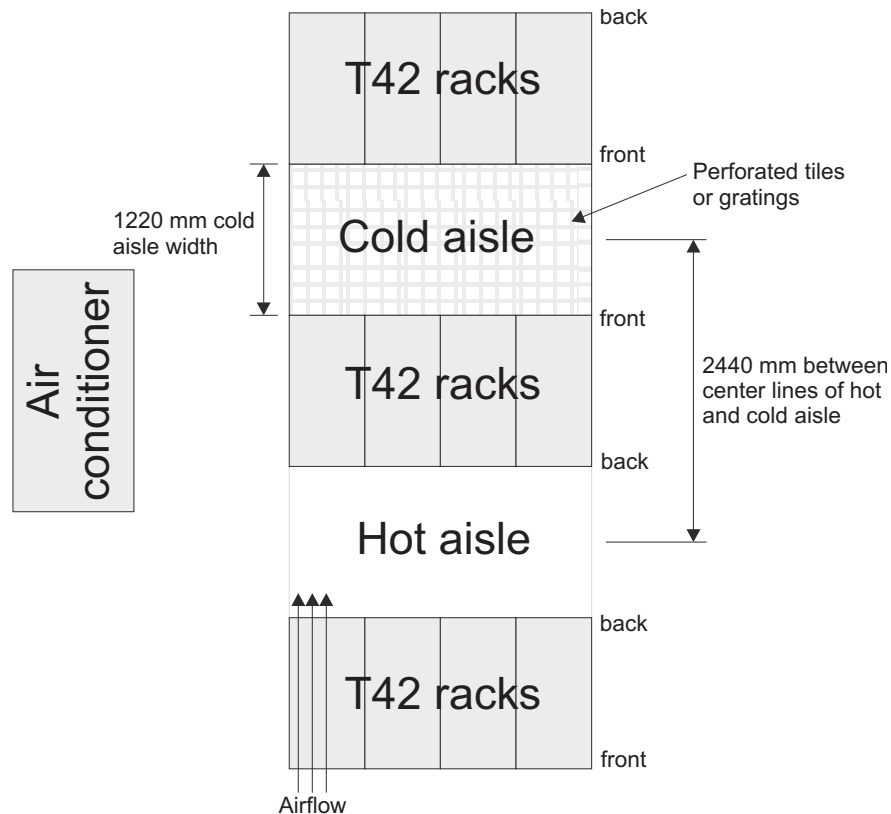

Figure 14. Example of cold aisle/hot aisle rack configuration
- Air enters at the front of the rack and leaves at the back. To prevent the air that is leaving the rack from entering the intake of another piece of equipment, you must position the racks in alternate rows, back-to-back, and front-to-front. This arrangement is known as *cold aisle and hot aisle* and is shown in Figure 14.